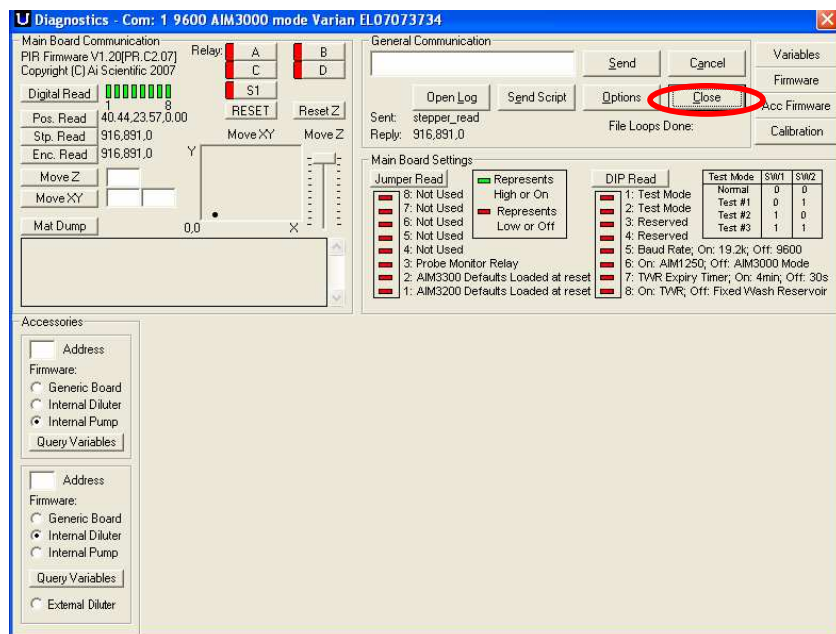
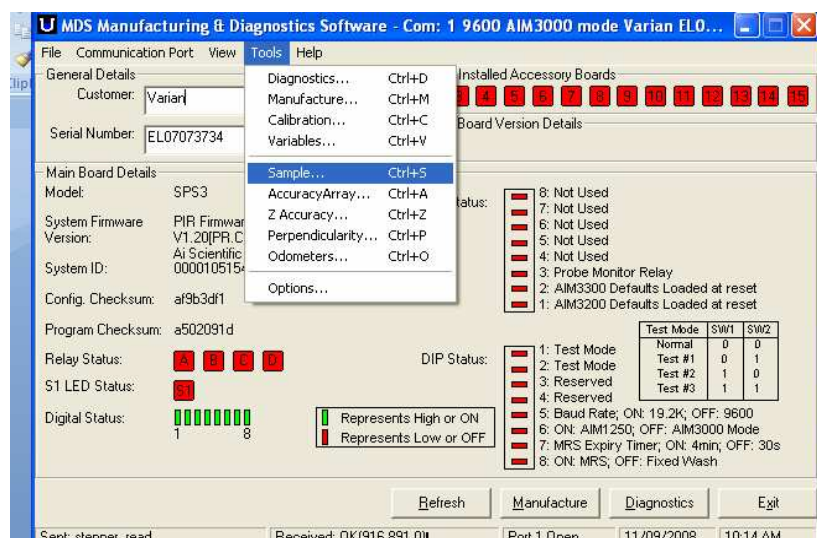
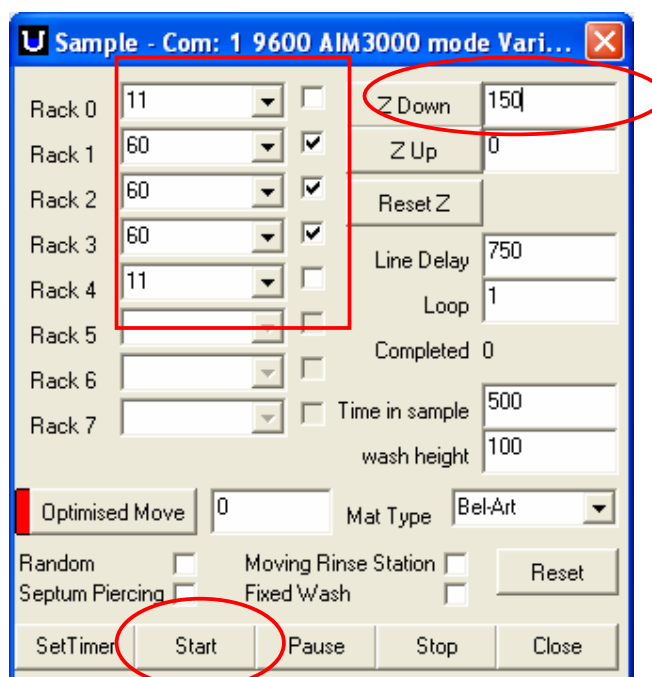

Figure 7: Closing the Diagnostics Page
Figure 8: Main Page of the software
Figure 9: Fraction Collector Rack Configuration
7. Press the *Close* button again (Figure 7) and you will be back to the main page of the software (Figure 8).
8. Select the *Tools* option from the pull down menu and click on *Sample* (Figure 8). This will open the window in Figure 9 where you can choose which racks the Fraction Collector has and the rack size.
10. Select a Z down (Figure 9) value so that you can easily see if the probe is going into the sample collection tube properly. I usually pick a value of about 150. Once you are happy with the setup, click on the Start button and the probe will move through all the positions for the number of racks you have selected.